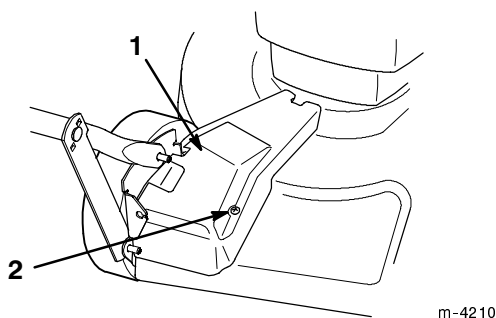

Figure 32
1. With the engine turned off, remove the bolt that secures the belt cover (Fig. 32) and remove the cover.